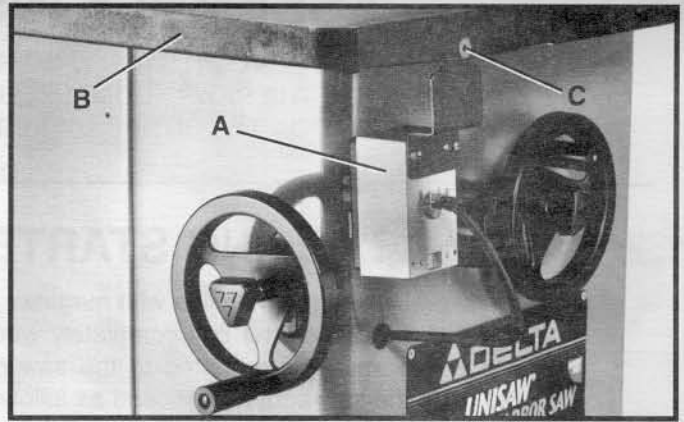

Fig. 9
The switch (A) Fig. 9, is shipped mounted to the inside lip of the left extension wing (B) with the ON/OFF button facing inward to prevent damage during transit.
1. Remove the 5/16-18 x 1" flat head screw, flat washer and hex nut (C) Fig. 9, holding the switch bracket to the front inside lip of the left extension wing and rotate the switch and bracket 180 degrees. **DO NOT** discard hardware.